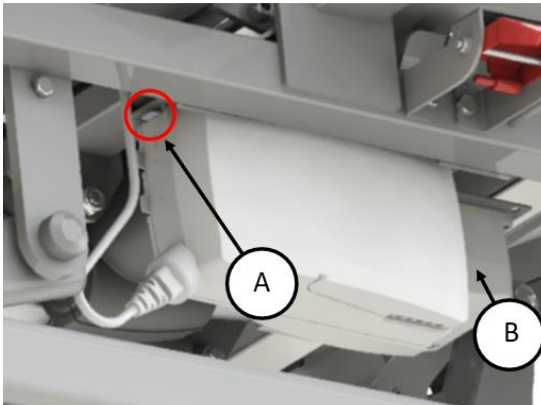

Figure 16: Control Box attached to bed mounting bracket
- b) Release the control box (1) from the bed frame mounting bracket (2) by reaching from under the mattress platform and pressing on the lock tab (A) at one end of the control box as shown on figure 16. Simultaneously slide the control box out of the mount bracket.
- c) Open control box lid by inserting a small screwdriver into the two slots (B) and pressing the lock tabs as shown on figures 16 & 17.